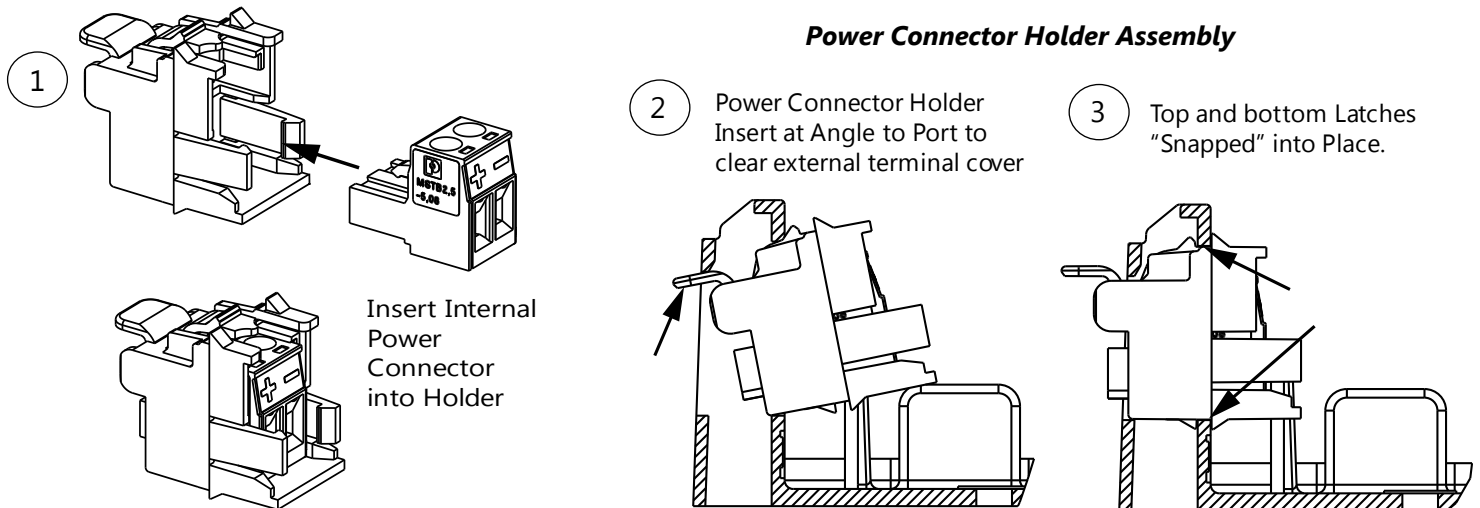

Figure 7
3. Assemble Internal Power Connector into Connector Holder. From the inside of the module base, align the Holder with assembled Power Connector with the appropriate port of the modular base. Angle the Holder into the port as shown in Figure 7. Push and rotate Holder into port until it snaps in place.